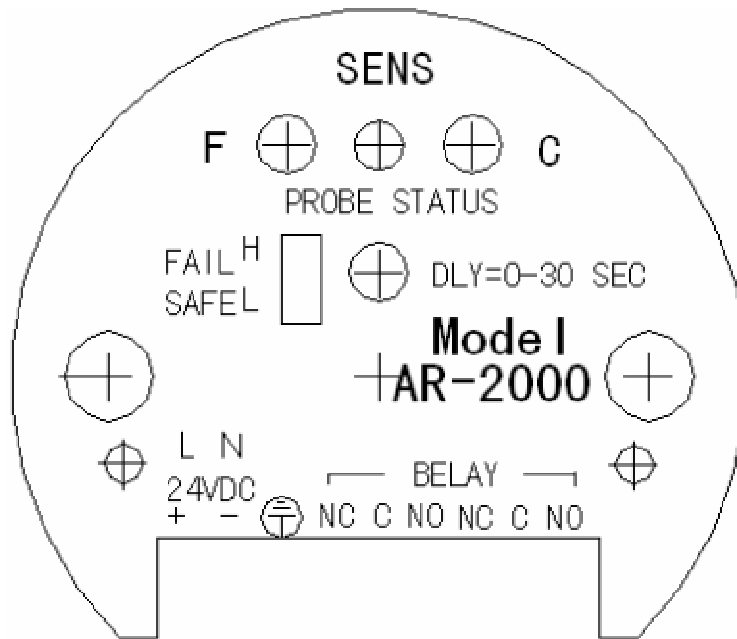

Figure 3-3
The ground return rod must be electrically connected to the AR-200 housing or to the ground position of the terminal block with 18 AWG or heavier wire. See Figure 3-3 & 3-4. See Figure 3-5 for ground continuity testing.
Connect the 115 Vac or 230 Vac power line wires: Hot (H), Neutral (N), and Ground (G) respectively, to the terminal block as shown in Figure 3-3. If the unit requires 24 Vdc for power, the terminal block is labeled as plus (+), minus (-) and ground (G). Connect 24 Vdc power accordingly (See Figure 3-3).
Connect the normally open (NO), normally closed (NC) and common (C), relay wires to the terminal block as shown in Figure 3-3, and as required by the specific circuit application.
The relay contact configuration, as shown on the terminal block labeling and in Figures 3-3, is identified as such with the relay in the de-energized (shelf) state. Fail-safe operation requires relay to be normally in the energized (non-shelf) state. Upon alarm, configured as either HIGH or LOW, the relay then becomes de-energized (shelf state).